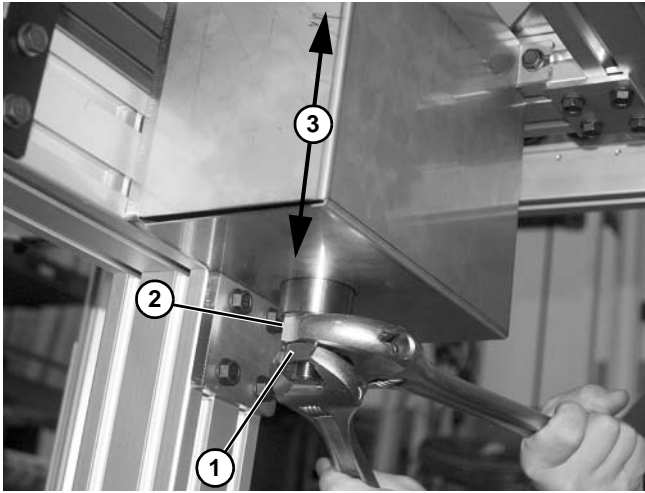

Figure 26
1. To adjust stroke, loosen jam nut (**Figure 26, item 1**) from large nut (**Figure 26, item 2**) on the bottom of cylinder shaft.
2. Turn large nut (**Figure 26, item 2**) clockwise or counterclockwise to raise or lower (**Figure 26, item 3**) pallet assembly as needed.